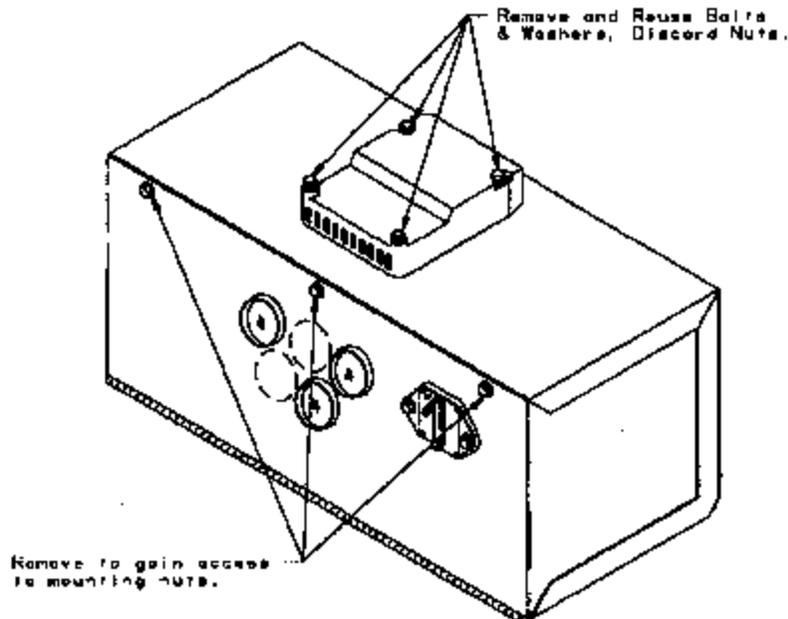

Figure 3
* On the ER Transit, TL960, and CL960, It will be necessary to open the electrical box to gain access to the mounting fasteners. See Figure 3.